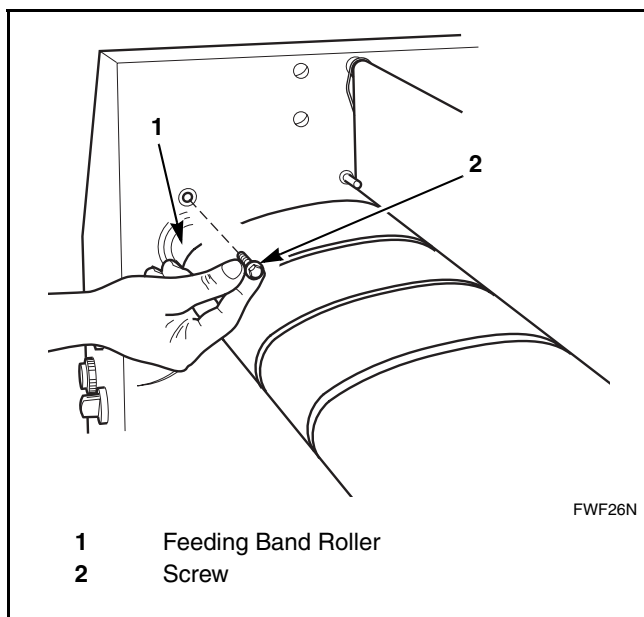

Figure 7
- f. Unlock the feeding band roller at the left side interior panel by removing two screws. Keep roller in place and check the direction in which the bearing is mounted. Refer to *Figure 7*.